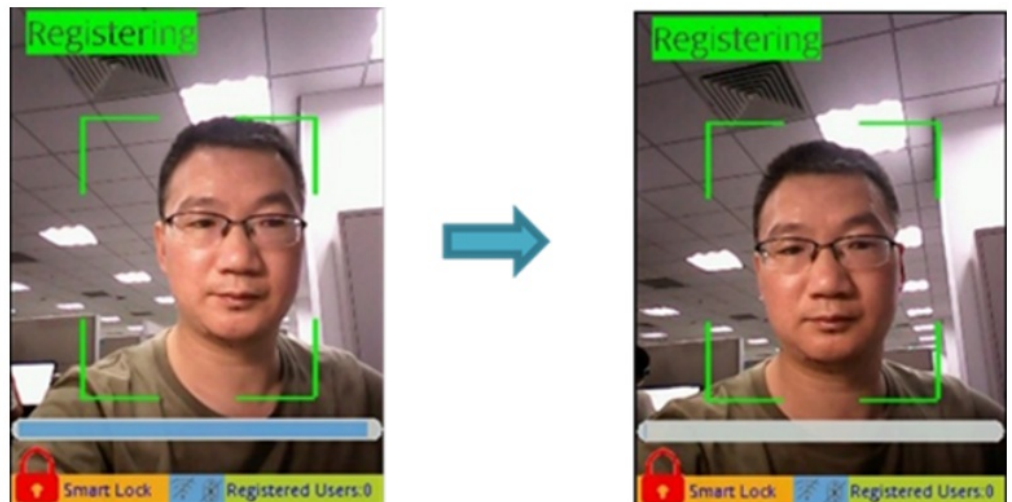

Figure 6. Registering screen
- Figure 6 shows that while registration is taking place, the GUI displays: